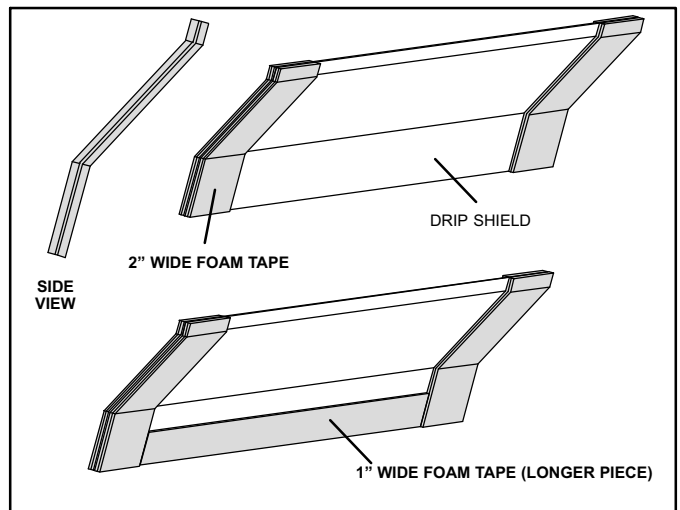

Figure 7. Applying Foam Tape to Drip Shield
4. Foam tape that is provided creates a seal between the drip shield and the coil so that water does not leak into the air stream. The foam tape pieces are precut. Apply the tape to the drip shields as illustrated in figure 7 and specified as follows: